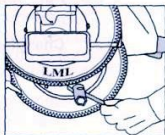

Fig. 38
- 2.3.7 Bring the vehicle in first gear and hold the wheel with one hand. Remove the five nuts securing the wheel to the brake drum by using the box spanner (Fig. 38).